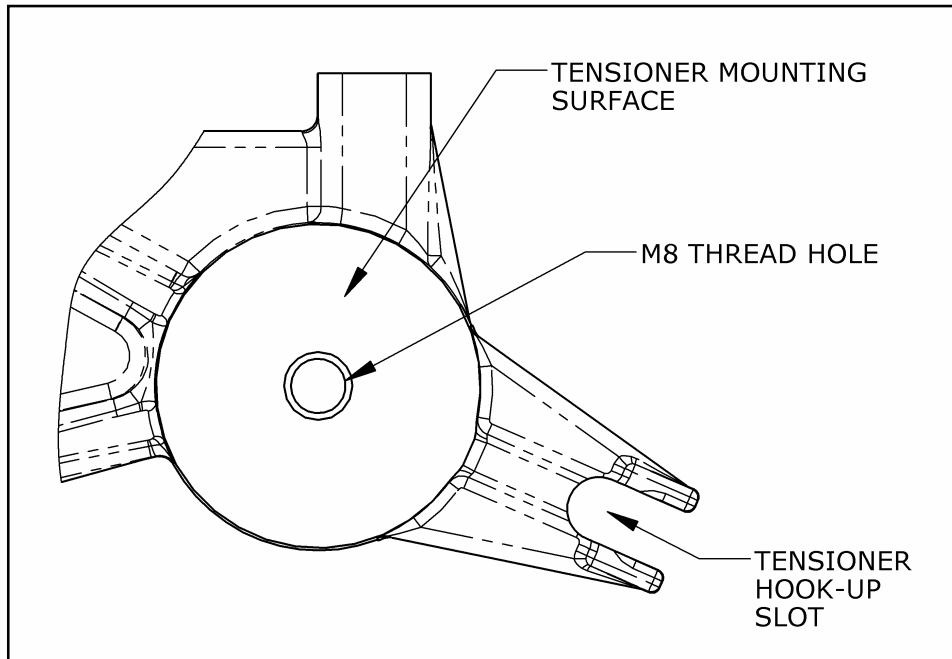

Figure 3: Tensioner Mounting Surface
5. Install the new tensioner (Fig. 2) on the bracket of engine ensuring that the anti-rotation Index Tab of the base plate is engaged in the slot in the bracket of engine (Fig. 3).